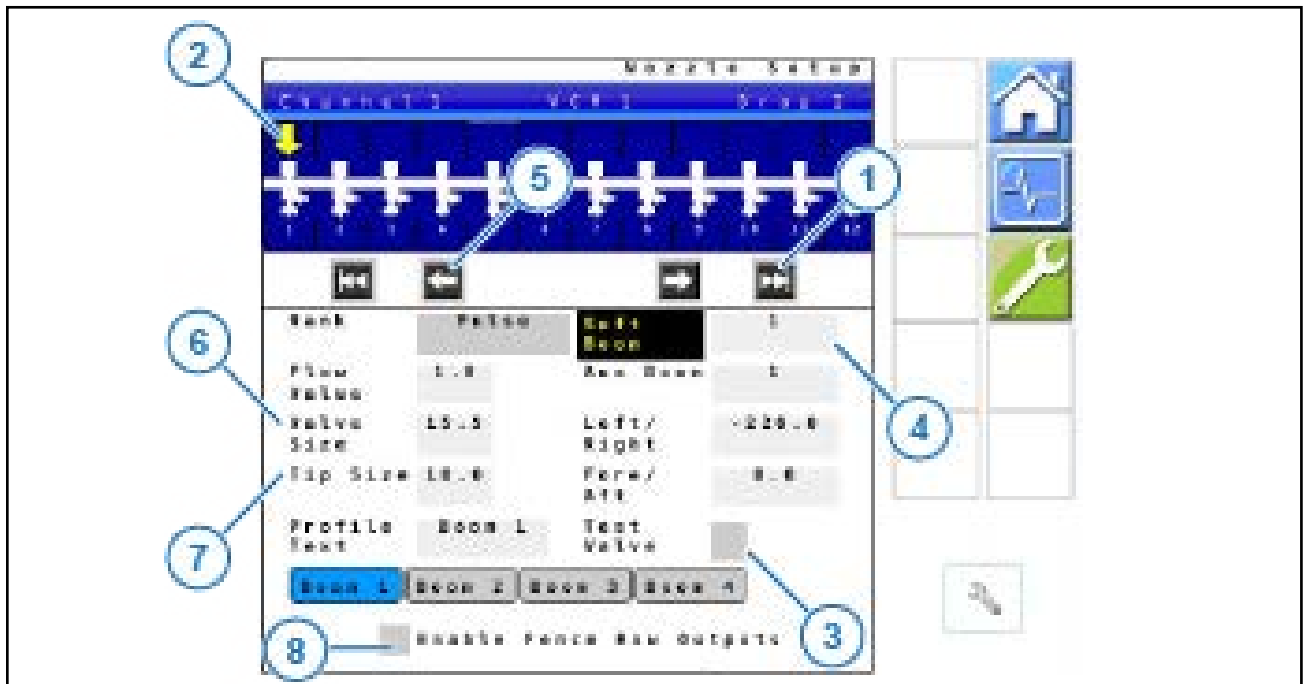

Figure 21: Nozzle Setup Screen
4. On the Nozzle Setup screen, select  (Figure 21, Item 1) to go to the next set of 12 nozzles in sequence.
5. Make sure that the yellow arrow (Figure 21, Item 2) is highlighting the correct nozzle.
6. To make sure that the correct valve is highlighted, select the box next to (Figure 21, Item 3) Test Valve. With an X in the box, the valve will pulse. Remove the X to stop the valve.
7. Select the box (Figure 21, Item 4) with the **Soft Boom** text to change the boom layout as desired. Refer to your machine's Integration instructions for exact soft boom configurations.
9. If necessary, change the valve size (Figure 21, Item 6) or tip size (Figure 21, Item 7).
10. To enable Fence Row Outputs, tap checkbox (Figure 21, Item 8). See Hub Connector Identification on Page 123 for output pin designations.